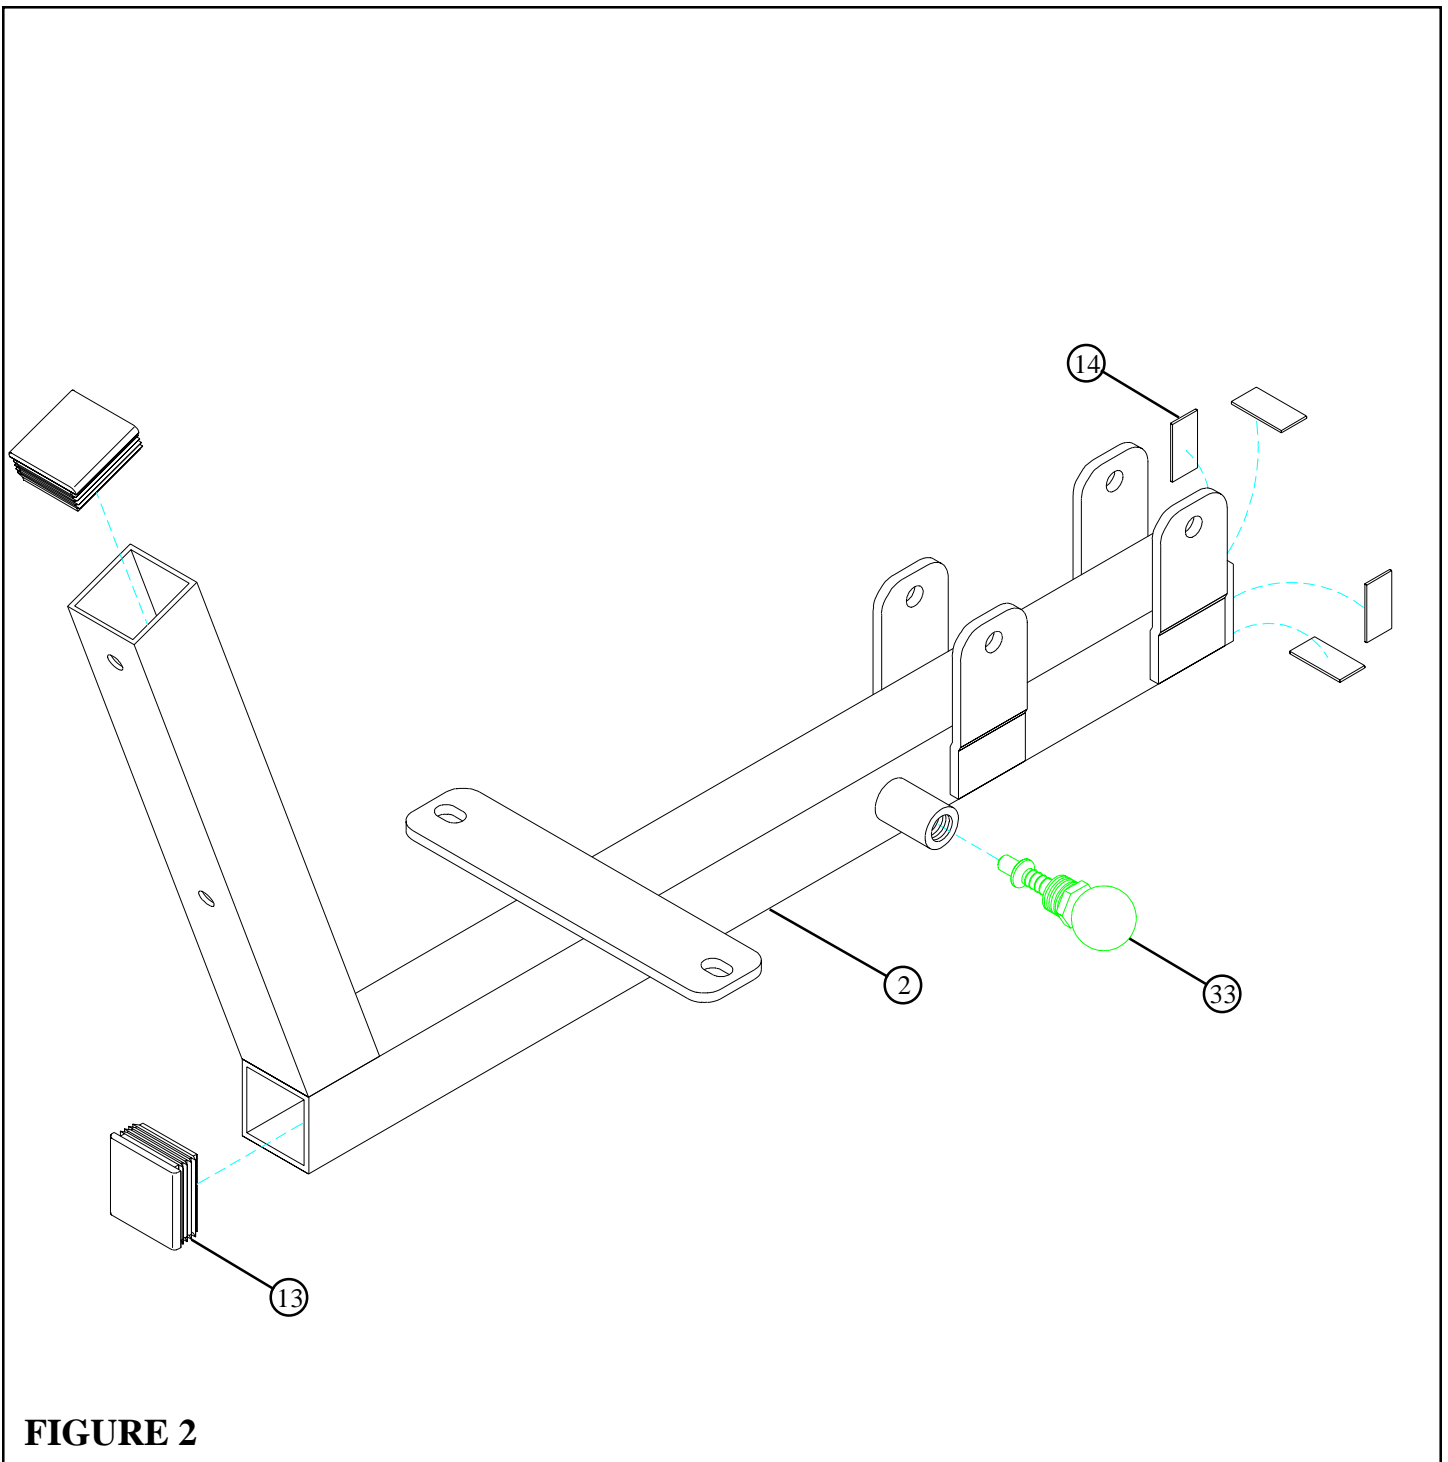

FIGURE 2
- Insert two 2” SQ. ENDCAPS (13) into the ends of the SEAT FRAME (2) as shown in FIGURE 2.
- **SECURELY** assemble one 3/8” SPRING PIN (33) to the spring pin barrel on the SEAT FRAME (2) as shown in FIGURE 2.
- Attach four PARAGLIDE STRIPS (14) to the *inside* of the SEAT FRAME (2) using the following steps:
- Thoroughly clean all surfaces where the PARAGLIDE STRIPS (14) are to be attached.
- Remove the PARAGLIDE STRIPS (14) from the paper backing and firmly apply them to all shown surfaces.